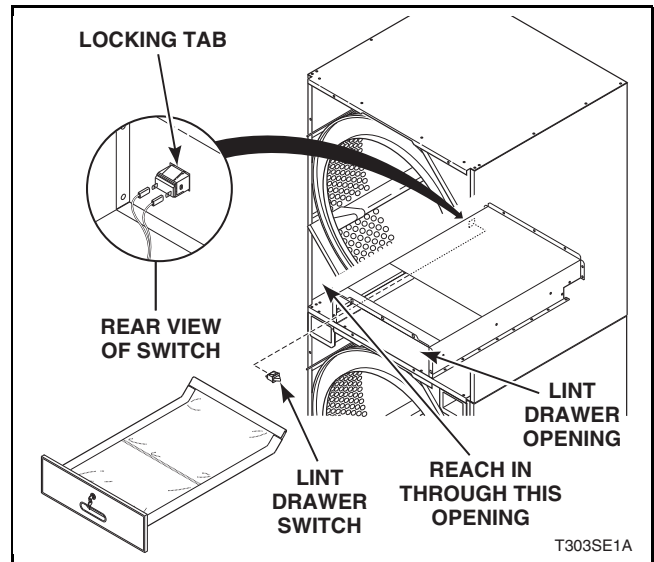

Figure 11
Refer to *Figure 11*.
- a. Unlock and remove lint drawer/panel. Refer to *Figure 11*.